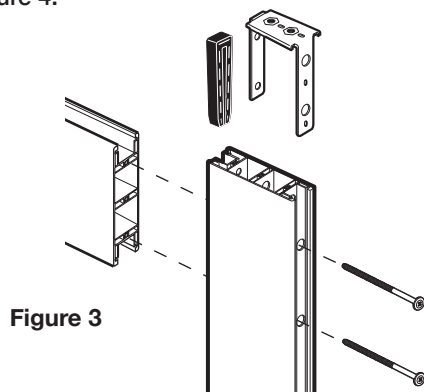

Figure 3
Place 2 of the 4" screws into the 2 holes in the outside of the Stile channel. Make sure they are fully inserted. Slide a reinforcement clip (D) into the channel and over the screw shafts. See Figure 3.